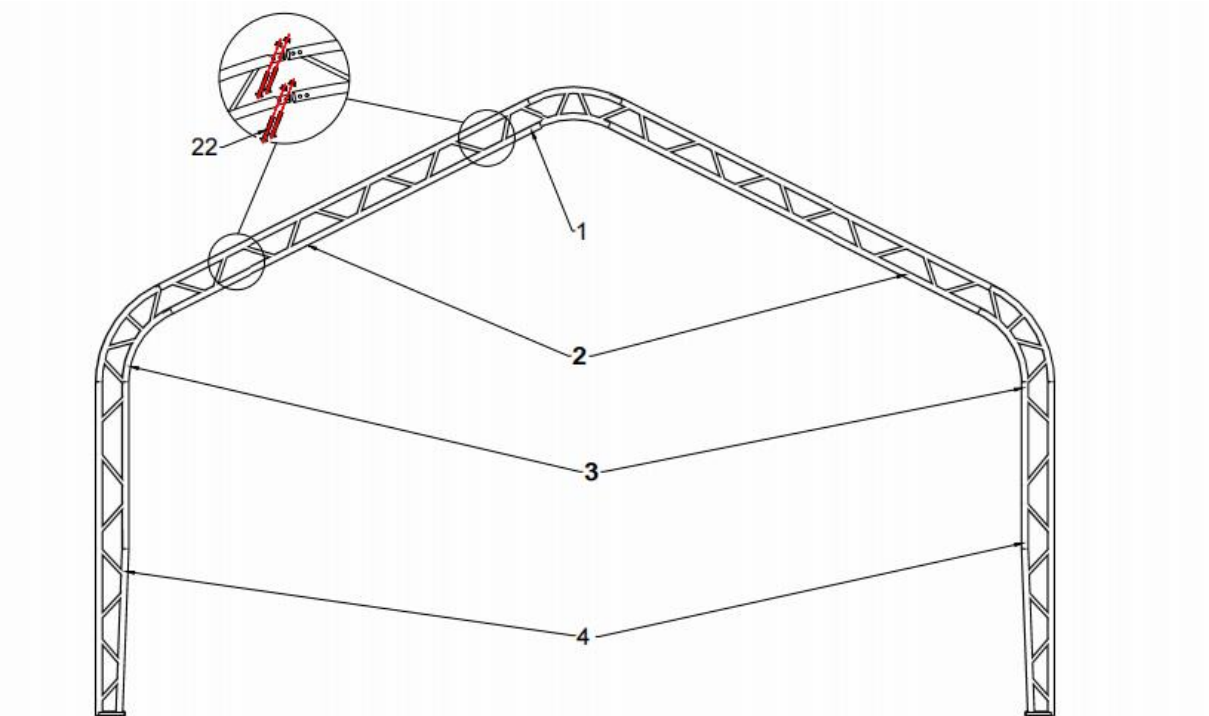
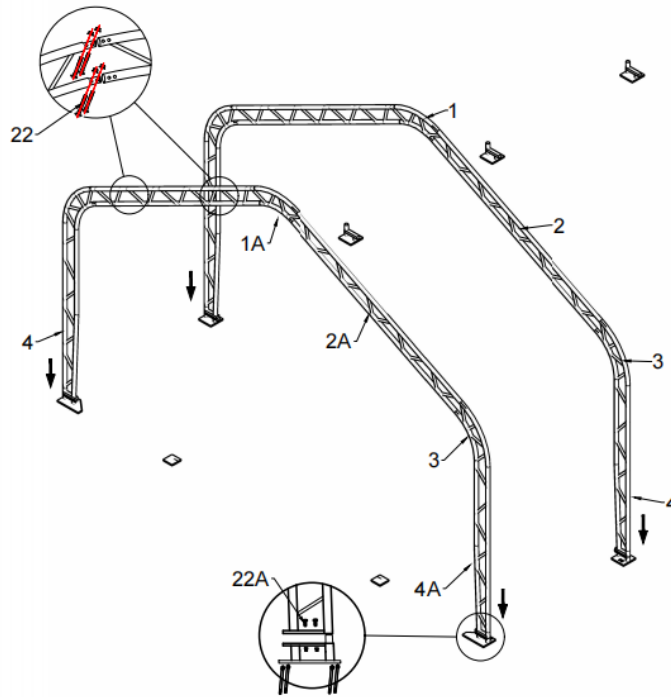

Figure 4
Figure 5
2. Figure 4 shows to connect the roof bent tube (No.1), sidewall bent tube (No.2), shoulder bent tube (No.3), and standing leg (No.4) with carriage bolt 8x80 (No.22), then put the arch into tube of the base flange by hoist, and assemble every group arch by turns (see Figure 5)